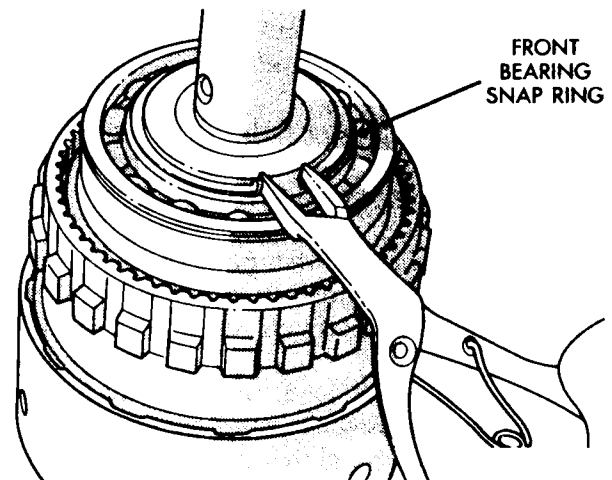

Fig. 20 Front Bearing Snap Ring Removal
- (5) Remove output shaft front bearing snap ring (Fig. 20).